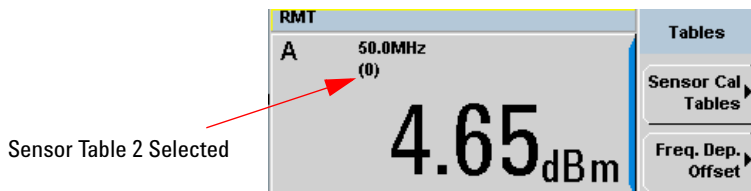

Figure 7-126 Frequency dependent offset indicator
- 4 Press **Done** again to display the measurement screen. Figure 7-126 shows which offset table is selected.